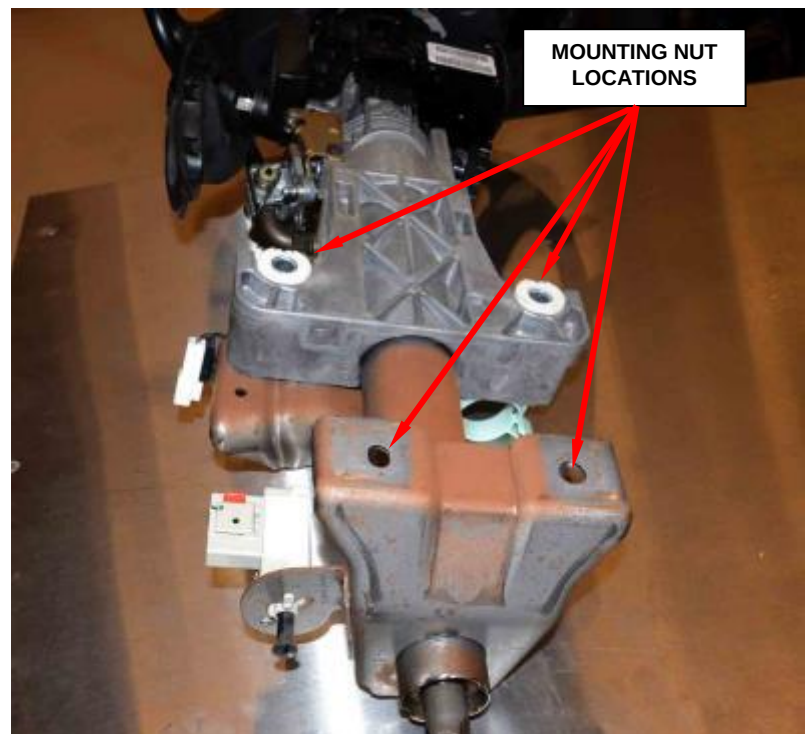

Figure 132 - Steering Column Mounting (Column Removed for Photographic Purposes)
9. Remove the steering column tilt lever knob (Figure 132).
10. Remove the three screws from the lower steering column shroud and remove the upper and lower shrouds (Figure 132).